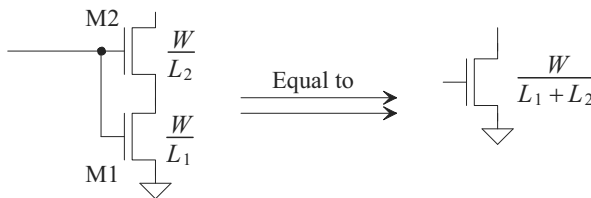

Figure 6.21 MOSFETs operating in series.
- 6.14** Show that the bottom MOSFET, Fig. 6.21, in a series connection of two MOSFETs cannot operate in the saturation region. Neglect the body effect. *Hint:* Show that M1 is always either in cutoff ($V_{GS1} < V_{THN}$) or triode ($V_{DS1} < V_{GS1} - V_{THN}$).
- 6.15** Show that the series connection of MOSFETs shown in Fig. 6.21 behaves as a single MOSFET with twice the length of the individual MOSFETs. Again, neglect the body effect.